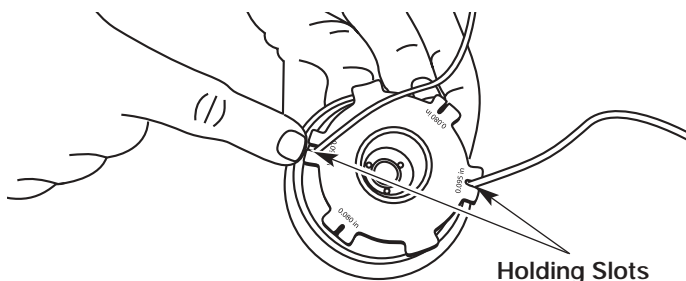

Fig. 39
- Insert the ends of the line into the two holding slots (Fig. 39).